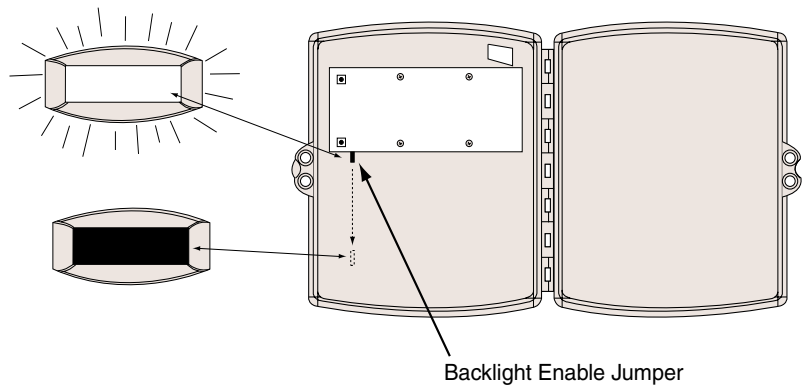

Figure 10: Enabling and disabling the LCD backlight
11. Set the Backlight Enable Jumper to the desired operating condition (refer to Figure 10). The unit is shipped with the jumper in the enable mode. Remove the jumper to disable the LCD backlight.